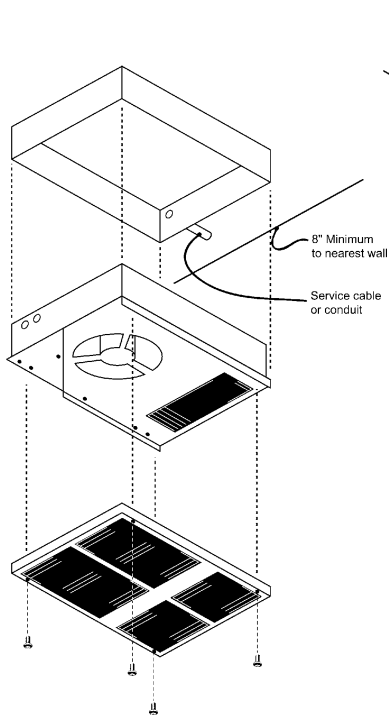
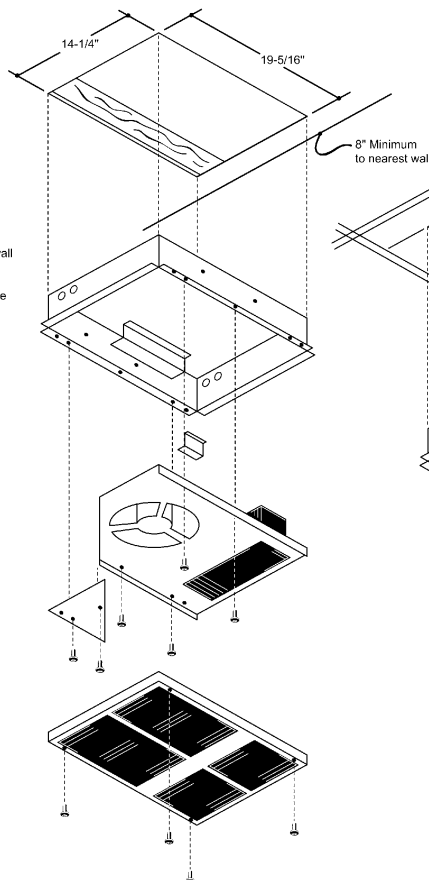

Fig. 1
Fig. 2
1. Disassemble heater as shown in Fig. 1 & Fig. 2.
2. Flush Mounting (Fig. 2). Provide opening in ceiling 14 1/4" wide by 19 5/16" long. Note that the direction of air flow is parallel to the 19 5/16" side of the opening. Depth must be a minimum of 4" from the finished ceiling surface. Install rough-in box into the opening so that the flanges are flush with finished ceiling surface. Secure rough-in box with nails, screws or appropriate fasteners. Wiring may be brought into the box from either end using the knockouts provided.
3. Surface Mounting (Fig. 1). Insert rough-in box into surface adapter CEHA /3380EX33. Secure rough-in box into ceiling through holes provided in the back. Be sure that rough-in box is centered in the surface adapter. Bring wiring in through air outlet end knockouts only.